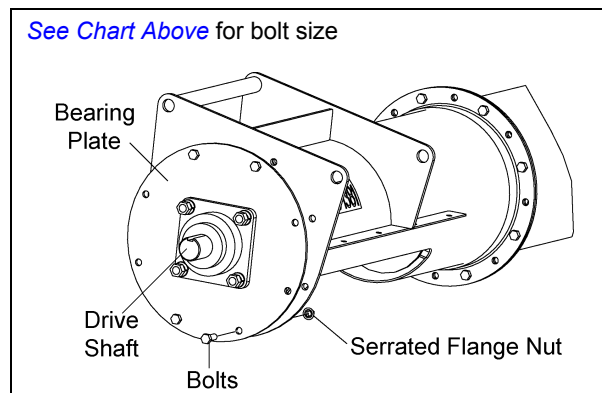

Figure 4I
- C. Only Secure with UPPER and LOWER four (4) bolts. *(See Figure 4I)* The other four (4) bolts will be installed later with the Belt Guard Mounting Brackets.